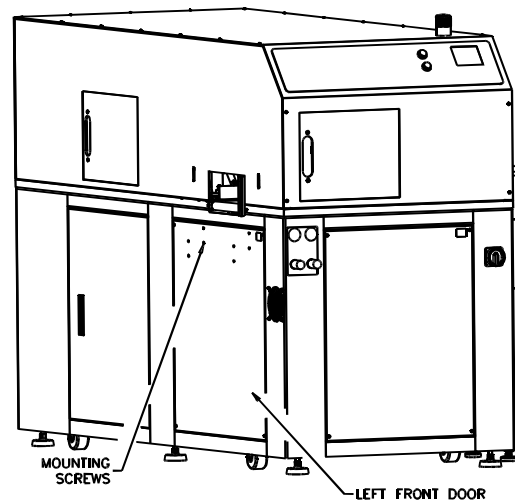
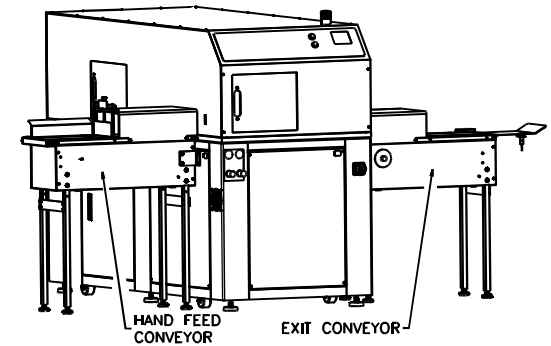

Figure 2-18. Hand Feed Mounting
Figure 2-19. Stand Alone Application
1. Remove (4) sets of screws and washers fastened to the center of the door on the left-hand side of the trimmer as shown in Figure 2-18. Save them for later use.
3. Move the hand-feed conveyor to the left-hand side of the trimmer such that the slots in the conveyor mounting brackets line up with the holes in the Trimmer's left-hand door as shown in Figure 2-18 and Figure 2-19.